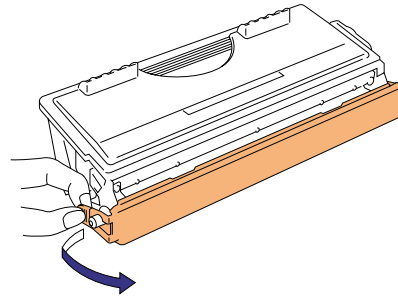

Fig. 5-4
- (4) Remove the protective cover. (Fig. 5-4)
- (5) Install the new toner cartridge into the drum unit until it locks into place, indicated by a click. When the toner cartridge is installed correctly, the lock lever is lifted automatically.